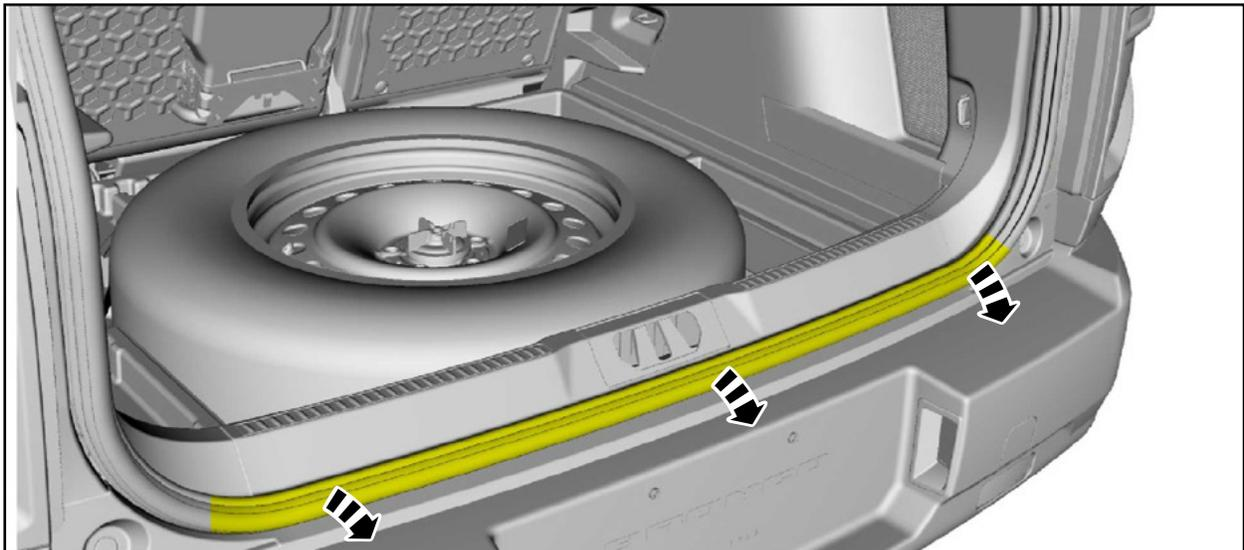

FIGURE 17
17. Position the liftgate weatherstrip aside. See Figure 17.